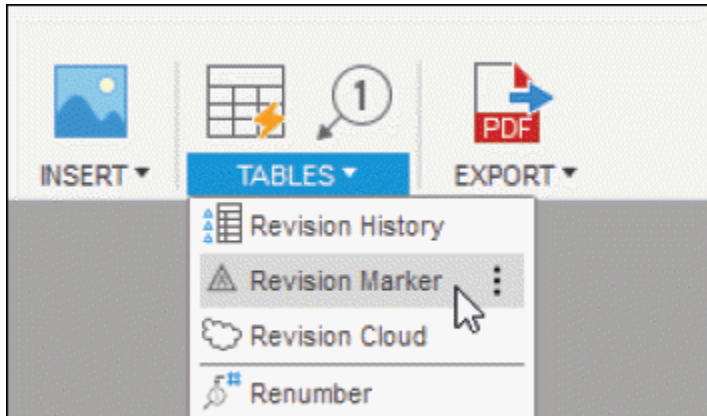
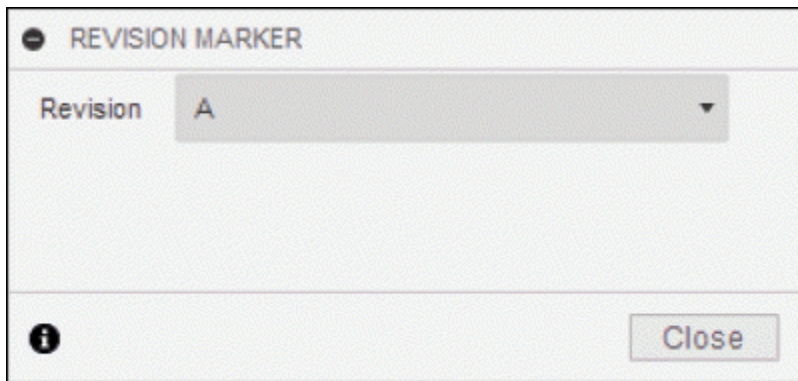

Figure-118. Revision Marker tool
Figure-119. REVISION MARKER dialog box
- Click on the **Revision Marker** tool from **TABLES** panel in the **Toolbar**; refer to Figure-118. The **REVISION MARKER** dialog box will be displayed; refer to Figure-119.